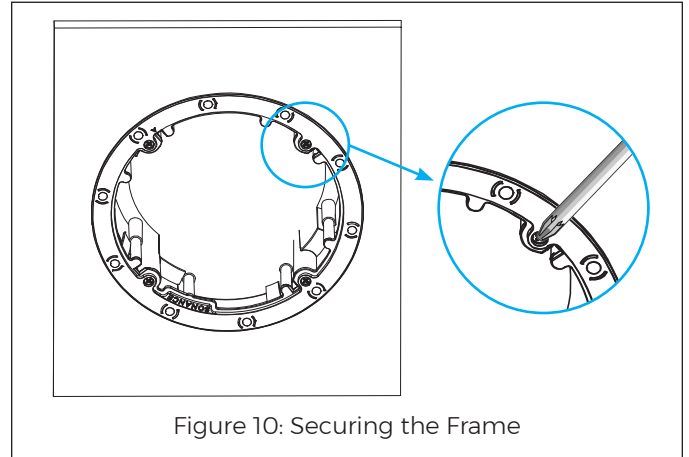

Figure 10: Securing the Frame
- Tighten the four screws on the front baffle to clamp the Roto-Lock toggle feet into position, securing the speaker frame to the surface (see Figure 10).